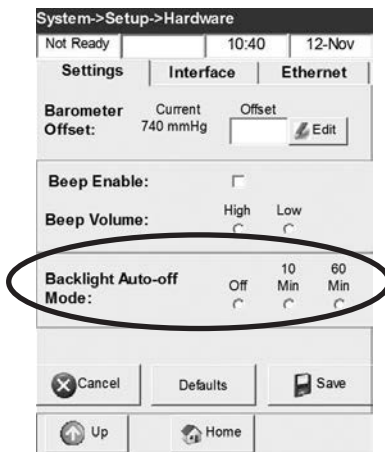

Fig. 3-33 Backlight Auto-Off
3. In the **<Settings>** screen, select **<OFF>**, **<10 Min>** or **<60 Min>** time intervals for the backlight auto off feature (Fig. 3-33).